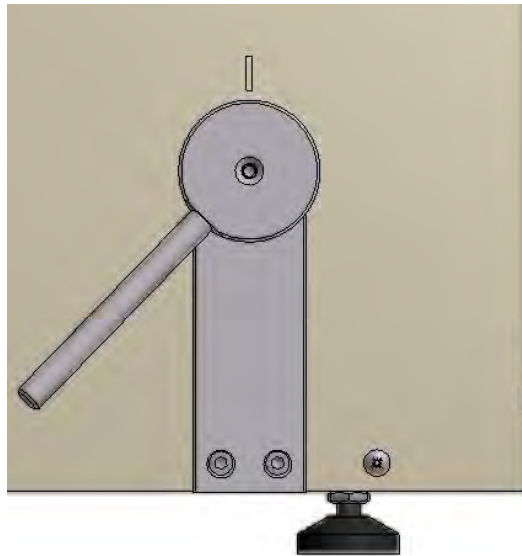
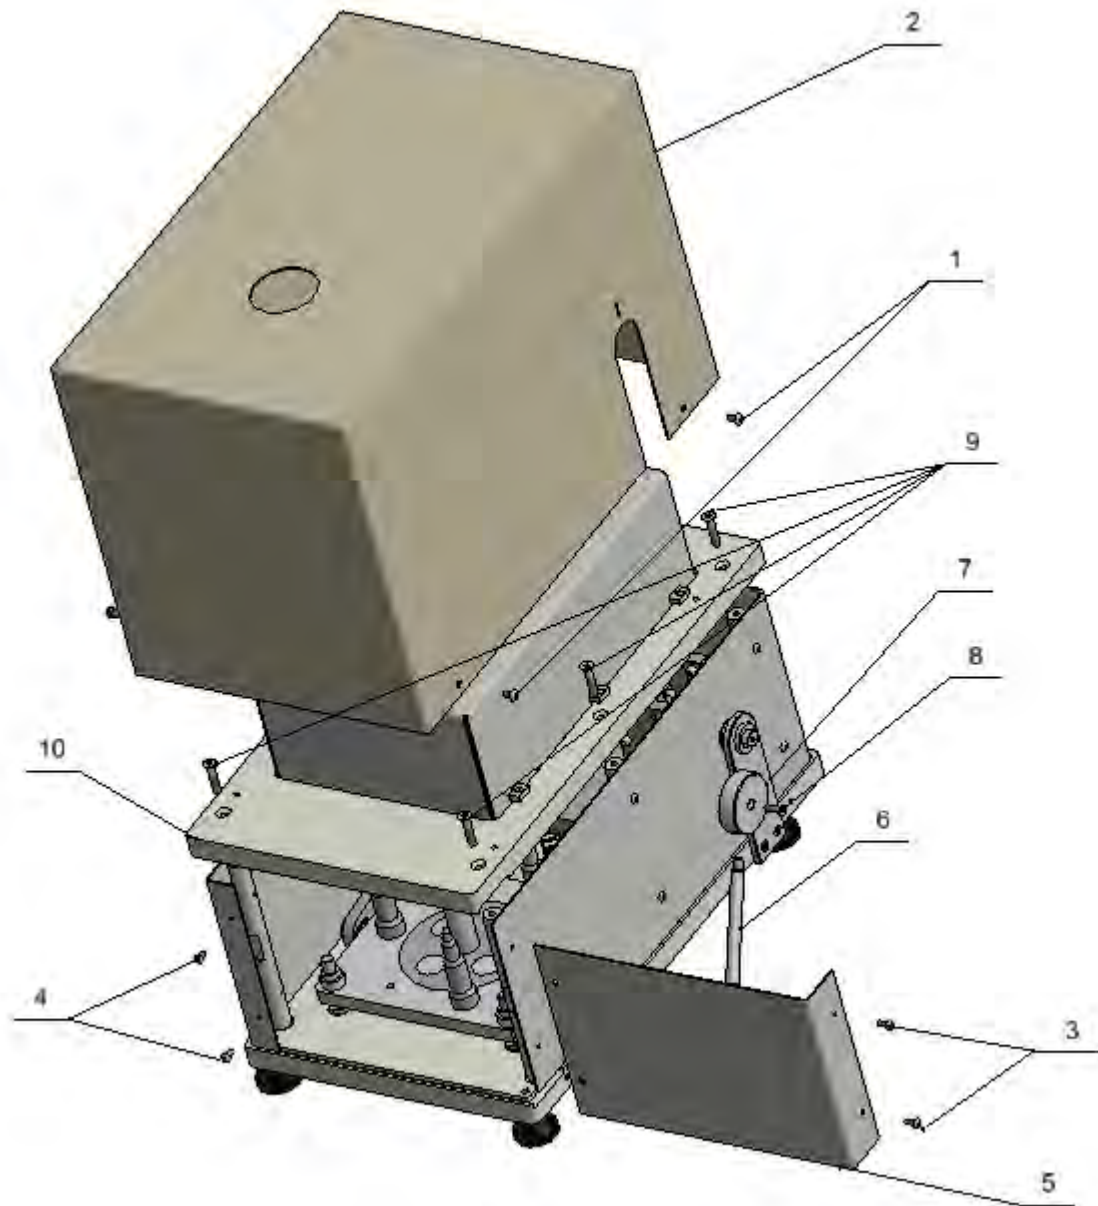

Fig. 2
Fig. 1
1. Undo four M4 screws (1) located on both sides of the housing (2). (Fig. 1).
2. Carefully remove the housing (2). (Fig. 1).
3. Undo two M4 screws (3) and two M4 screws (4). (Fig. 1).
4. Remove lid assembly for bottom shield (5). (Fig. 1).
5. Screw lever (6) in knob (7) and using M5 screw (8), fix the set to the comparator (Fig. 1). The lever shall take lower position like it has been presented in figure 2.
7. Undo six M6 screws (9) (Fig. 1).